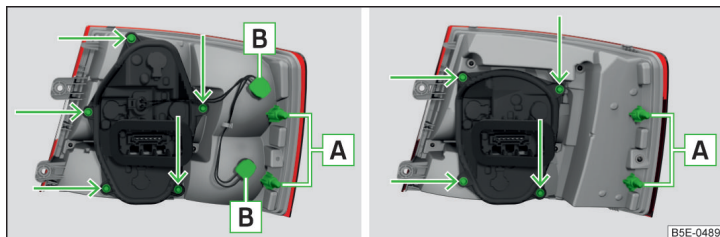

Fig. 244 Outer part of the light: Basic light/light with LED diodes
- Insert the lamp with the pin **A** » Fig. 244 on page 231 into the recesses **C**
- Turn the bulb holder **B** » Fig. 244 in an **anti-clockwise** direction and remove it from the lamp housing.
- Unscrew the lamp holder » Fig. 244 with the screwdriver from the car tool kit, and remove the lamp holder from the light assembly.